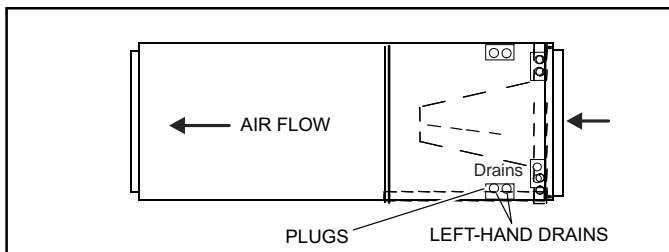

Figure 17. Left-Hand Discharge Configuration
4. The horizontal configuration is shown in figure 17.